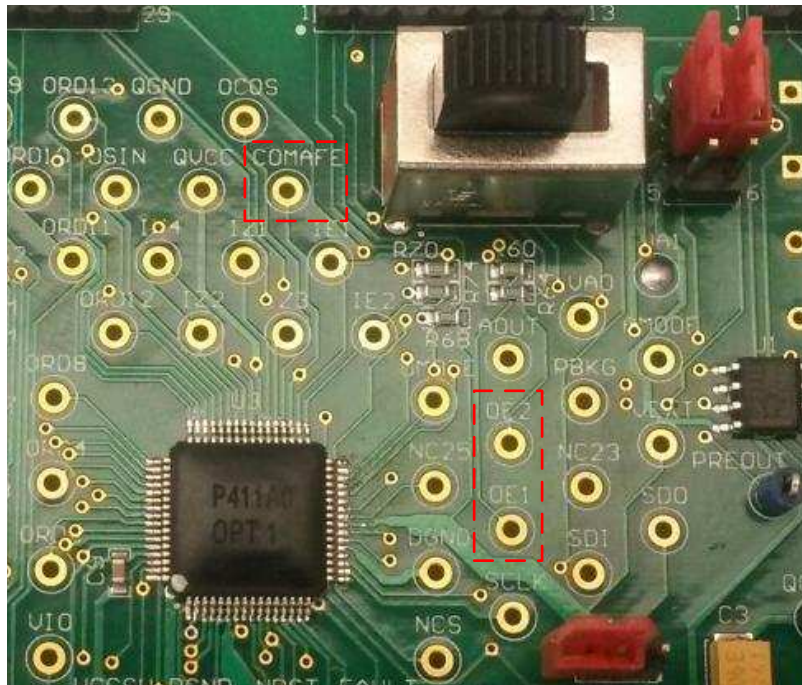

Figure 17. Test Points for Exciter Outputs and Common Mode Voltage
- Step 3. Probe pins COMAFE to check the 2.5-V pin voltage and use a differential probe on the OE1 and OE2 pins. Figure 17 shows these test-point locations on the board.